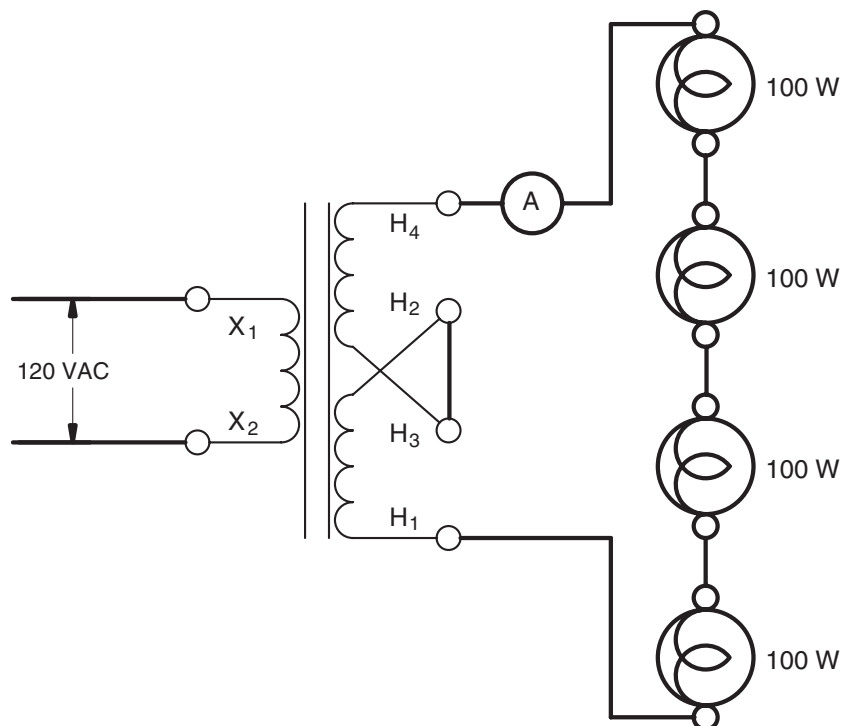

Figure 20-8 Connect the two high voltage windings in series. The transformer now has a turns ratio of 1:4.
39. Reconnect the transformer as shown in Figure 20-8 by connecting the two high-voltage windings in series. Connect four 100 watt lamps in series and connect them to terminals H_1 and H_4 for the transformer. Connect an ammeter in series with the secondary winding.